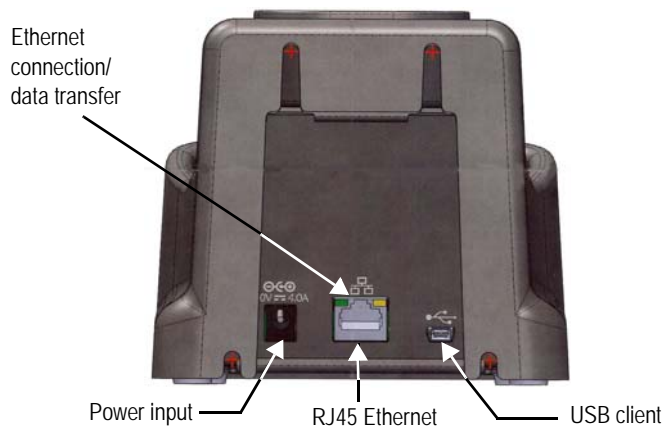

Figure 3.3 Nomad Communications Cradle Connections
- 6 Connect the other end of the AC adapter/battery charger into a power source. See Figure 3.3.
- 7 With an additional Ethernet cable, insert one of its connectors into the back of the cradle and the other into the back of the router. See Figure 3.3.